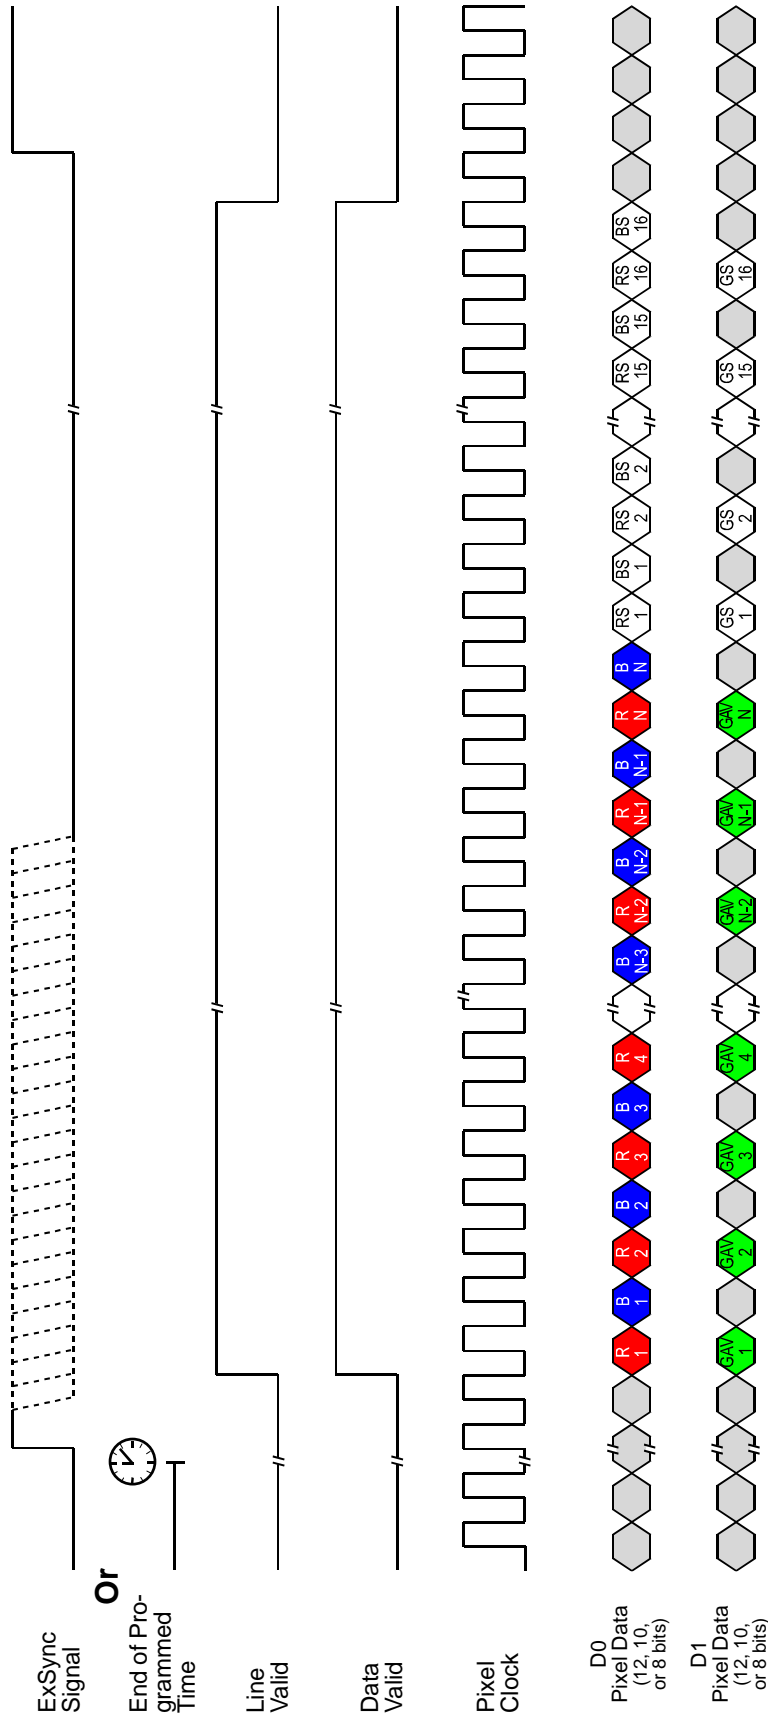
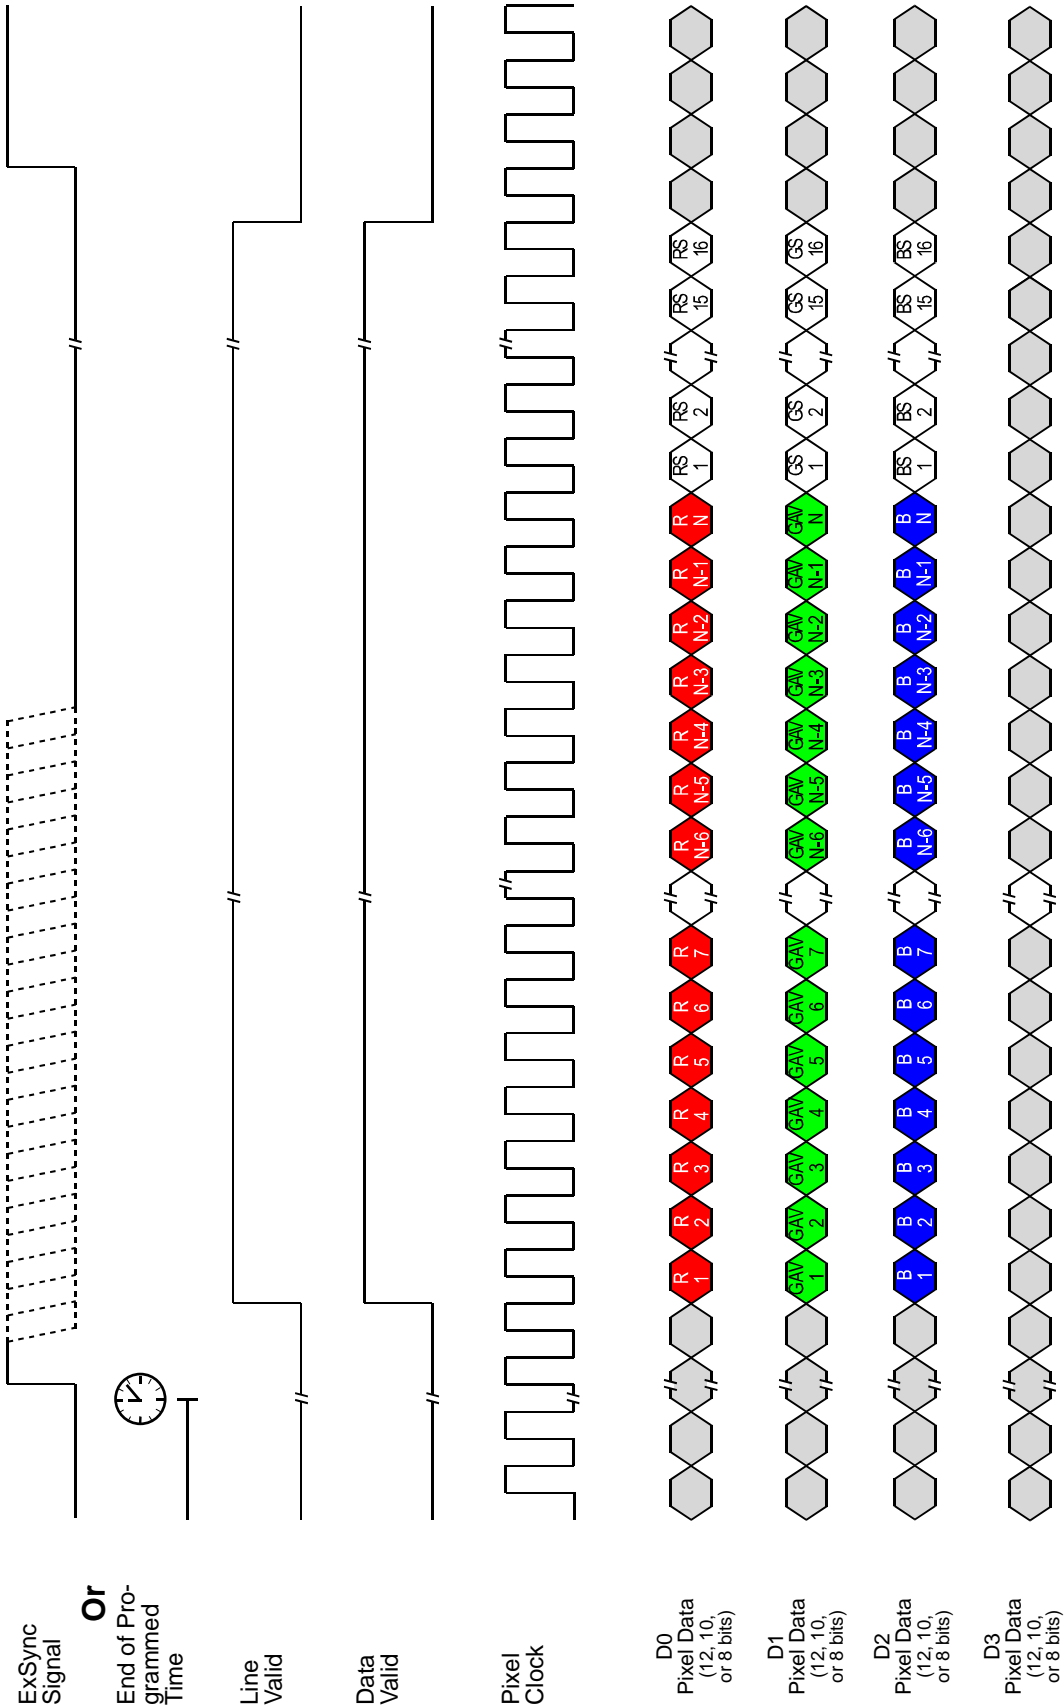

Fig. 87: Stamp Pixel Transmission with RGB Line Acquisition Mode and 2 Tap Video Data Output Mode (with Edge/Level Controlled or Programmed Exposure)
Fig. 89: Stamp Pixel Transmission with RGB Line Acquisition Mode and 4 Tap Video Data Output Mode (with Edge/Level Controlled or Programmed Exposure)
With RGB line acquisition mode, the transmission sequence of the stamp pixel values mimics the transmission sequence of the pixel values for the related colors. This is illustrated in Figure 87 through Figure 89.
- Stamp pixel values are transmitted on the same taps as the pixel values for the related colors. For example, when red pixel values (R) are only transmitted on the D0 tap, the related stamp pixel values (RS) will also only be transmitted on the D0 tap (see Figure 87 through Figure 89).
- When dummy pixel data are transmitted with the pixel values, the stamp pixel values will also be transmitted with dummy pixels in the same transmission pattern (see Figure 87 and Figure 89).
- When the pixel values for two colors alternate on one tap, the related stamp pixel values will alternate as well (see Figure 89 where red (R) and blue (B) pixel values alternate, as do the red (RS) and blue (BS) stamp pixel values).